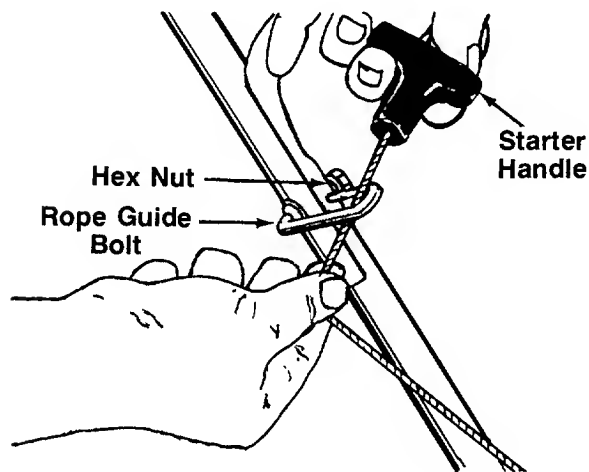

FIGURE 10.
- Slip the starter rope into the rope guide bolt as shown in figure 10.